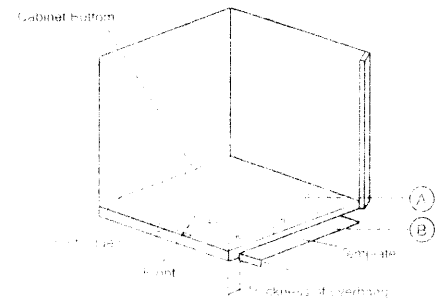

Figure 1
- Place the Mounting Template in the desired location of the cabinet (location A or B of Figure 1), flush with the front edge of the cabinet. Use adhesive tape to fix the template.
<See Figure 1>)